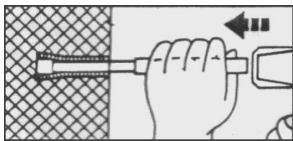

FIG.4
4. Insert wedge anchor into hole with threads facing outwards (Fig.4)